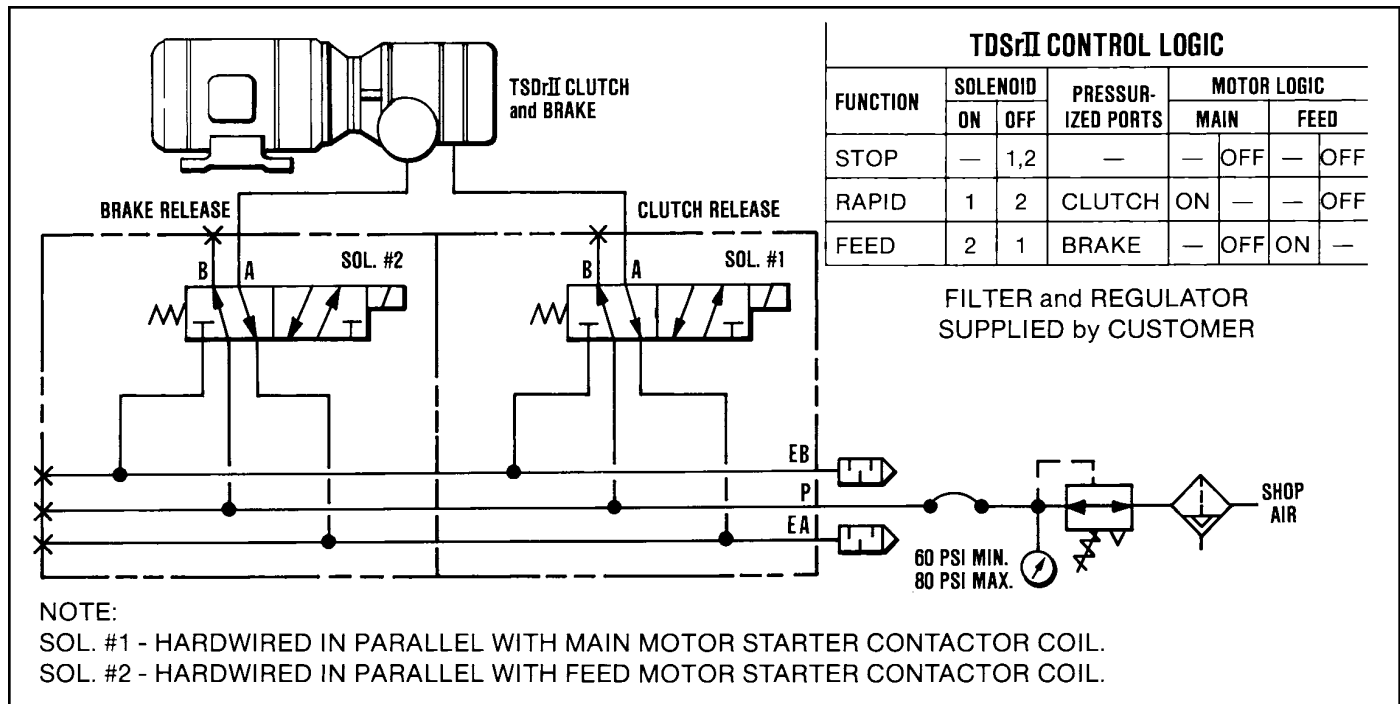

Figure 6.1 - Typical Pneumatic Schematic
For the least delay in actuation use 3/8" tube or hose and mount the valve as close to the drive as possible. Use of bottom air ports, with valve lower than ports will prevent accumulation of airline moisture in the *TSDrII* (See *Figure 6.1* on page 11).
2. Re-check all air connections for tightness and check to see that they are correct as shown in the Pneumatic Schematic (*Figure 6.1*).